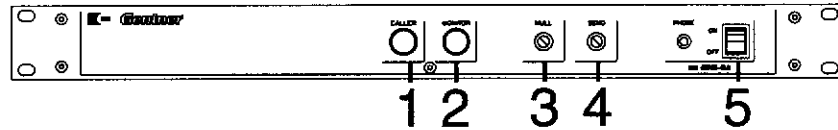

Figure 12b. Front-panel controls
- The PHONE switch [5] (See Figure 12b, below.) in the OFF position will mute any audio going to your equipment.